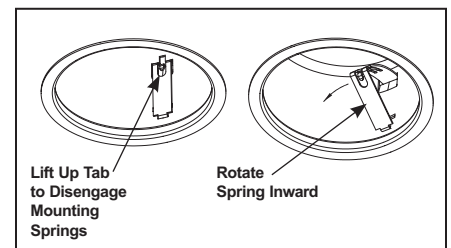

Figure 8
**Step 3.** Remove tape that seals the three springs. Disengage remodel springs and remove housing from ceiling. (Fig. 8)